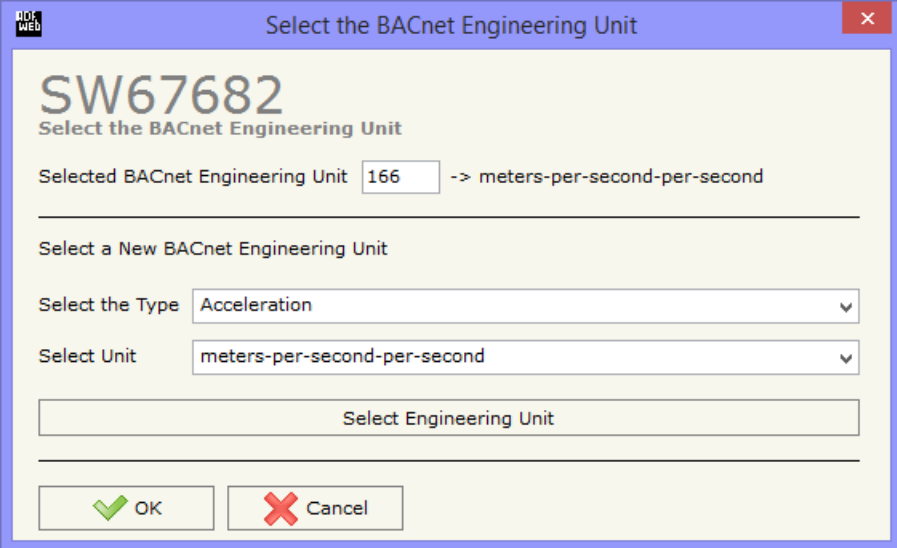

Figure 5: "Select the BACnet Engineering Unit" window
- In the field "**Eng. Unit**", with double click the window "*Select the BACnet Engineering Unit*" appears (Fig. 5);